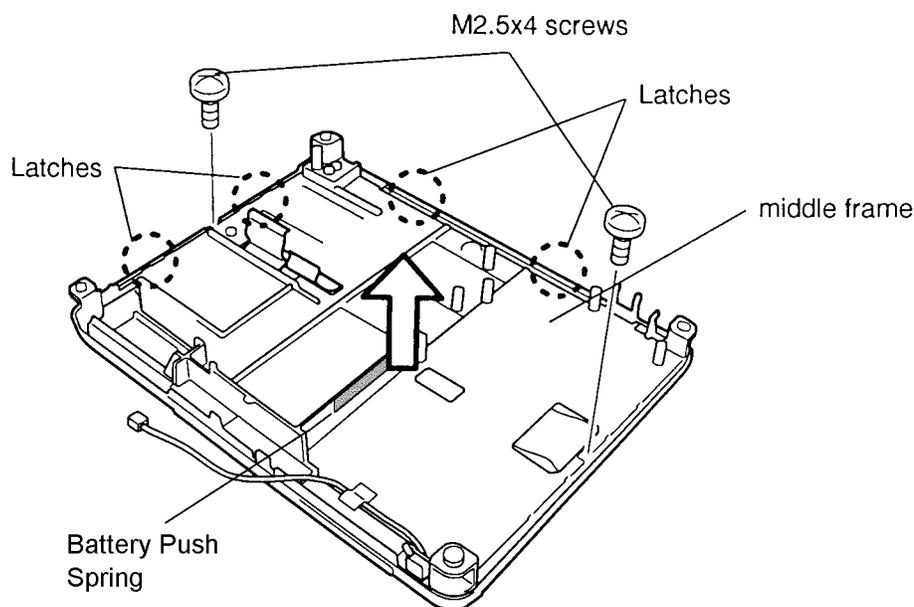

Figure 4-20 Removing the T200CS Base Frame
To remove the T200CS's tablet, follow the steps below and refer to Figures 4-20 through 4-22.
3. Remove the **two M2.5x4 screws** securing the **middle frame** (Figure 4-20).
4. Note the position of the battery push spring, then unsnap the **four latches** securing the **middle frame** to the display module and carefully lift off the **middle frame** (Figure 4-20).
To install the computer's tablet, follow the steps below and refer to Figures 4-20 through 4-22.
3. Place the **middle frame** on the display module, making sure the cabling is covered, then snap the **four latches** into place (Figure 4-20).
4. Secure the **middle frame** with the **two M2.5x4 screws** (Figure 4-20).